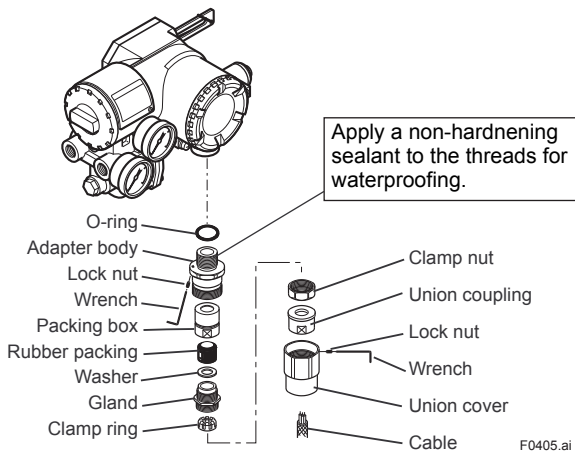

Figure 4.5 Installing Flameproof Packing Adapter
- Mounting flameproof packing adapter body to conduit connection (see Figure 4.5)